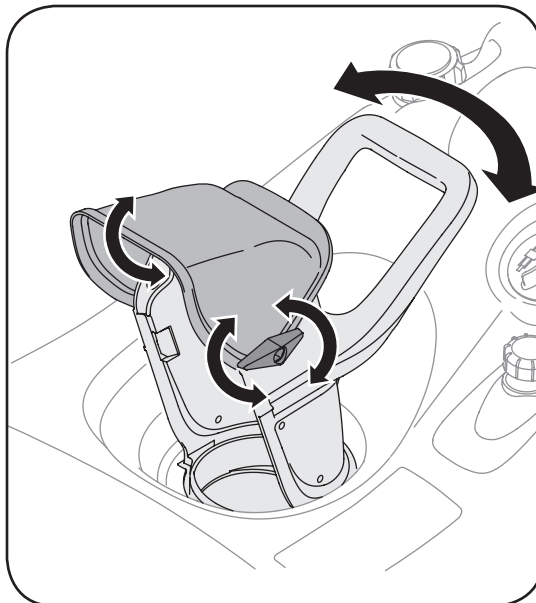

Figure 6
2. Position the chute assembly opening by using the Chute Handle to throw the snow in the desired direction. See Figure 6.